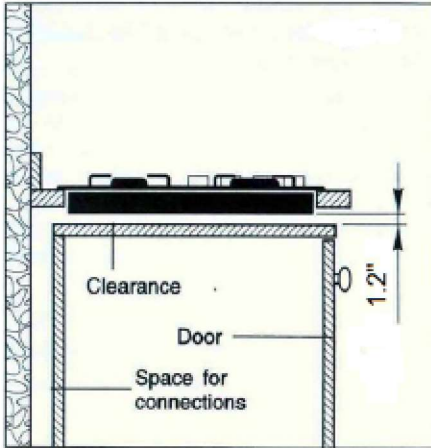

Fig.4
INSTALLATION IN KITCHEN CABINET WITH DOOR (fig.4)
It is recommended that a 1.2" clearance be left between the cooker top and the fixture surface (Fig. 4).
- Screw the adopter pin back into top cover assembly. Then put the top cover back onto the regulator (Figure 4).